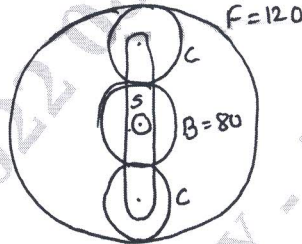

Fig.Q.8(b)
- b. The Fig.Q.8(b) shows an epicyclic gear train in which arm 'A' is fixed to shaft 'S'. 'B' is freely rotating on 'S' and 'F' is separately driven. 'A' receives 10kW at 200rpm and F is driven in the same direction at 100rpm. Determine: (08 Marks)